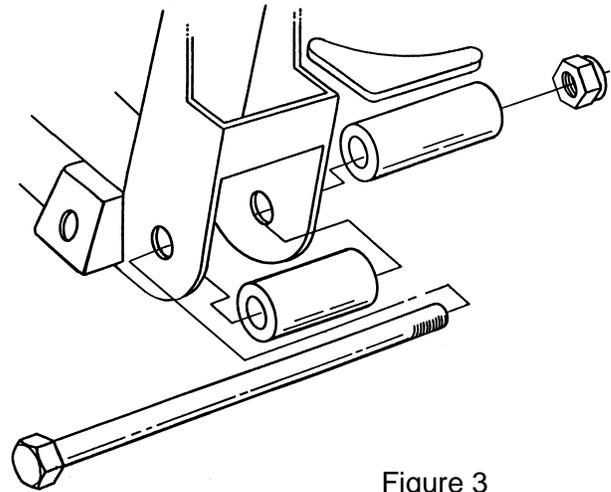

Figure 3
4. If you purchased a complete I.F.S. Package from *HEIDTS*, it was supplied with Full Lower A-Arms. Begin by installing the Spacers onto the crossmember. The holes where the lower control arms attach to the Crossmember must be enlarged to 5/8". Install the Crossmember Spacers and the Rear Spacers which were supplied with the Lower Control Arms onto the Crossmember as shown in Figure 3 using the supplied Inner Bushing Bolts, Nuts and a temporary spacer under the Nuts. **DO NOT** use the A-Arms for this operation as the welding heat will melt the rubber bushings. Tighten the Bolts and Nuts tight. Weld the Rear Spacers to the Crossmember all around. Weld the Crossmember Spacers as far as possible inside the crossmember on both ends. Position the Gussets horizontally, not vertically, against the Rear Spacers and the back of the Crossmember. Weld Gussets to Spacers and Crossmember. When it cools, remove the bolt.